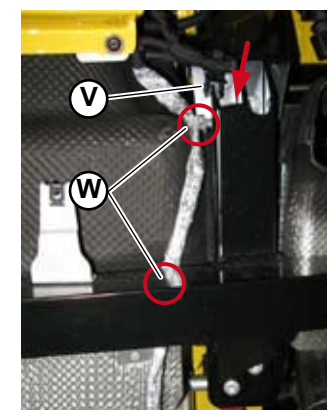

Fig.12
16. Connect the clip (**V-Fig.12**) and secure the hood opening wiring harness to the cross member.
17. Connect the rear fog light cable by securing its fasteners (**W-Fig.12**) on the cross member.